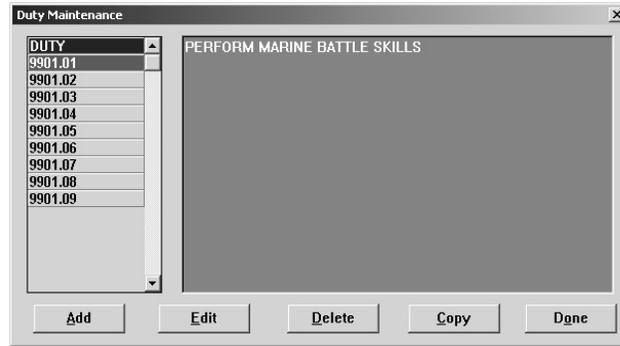
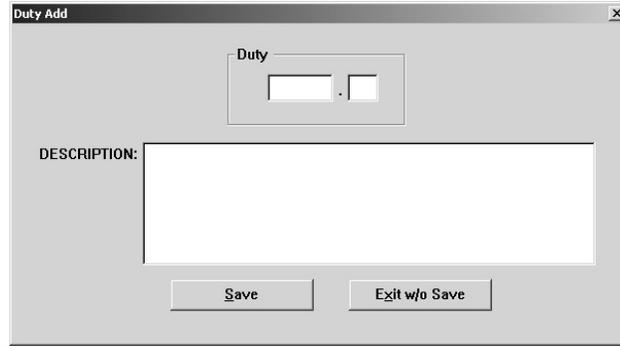
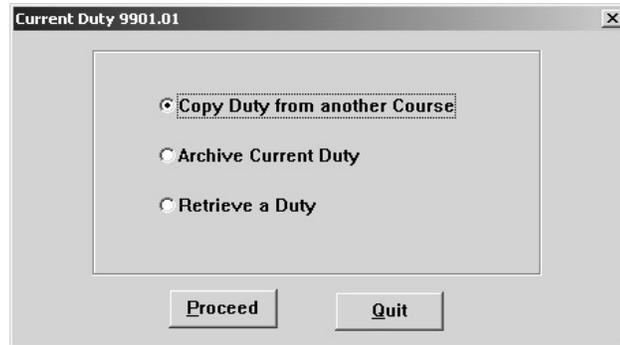
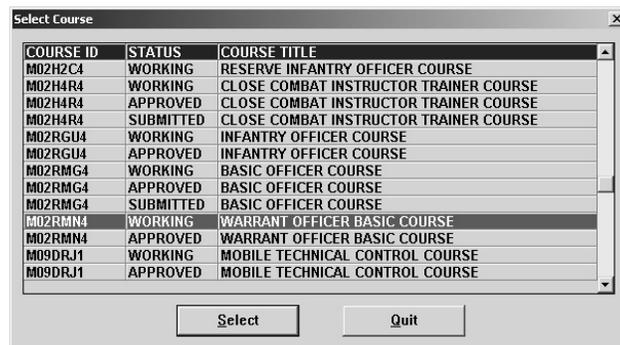

Figure 6-23. Duty Maintenance
Figure 6-24. Duty Add
Figure 6-25. Current Duty
Figure 6-26. Select Course
1. From the Maintenance drop-down menu, choose Duty. The Duty Maintenance selection list box (Figure 6-23) opens.
1. From the Duty Maintenance selection list box (Figure 6-23), click on **Add**. The Duty Add dialog box (Figure 6-24) opens.
1. From the Duty Maintenance selection list box (Figure 6-23), highlight the duty you wish to edit by clicking on it.
2. Click on **E**dit. A dialog box similar to the one in Figure 6-24 opens.
1. From the Duty Maintenance selection list box (Figure 6-23), highlight the duty you wish to delete by clicking on it.
- From the Duty Maintenance selection list box (Figure 6-23), click on **C**opy. The Current Duty dialog box (Figure 6-25) opens.
- From the Current Duty dialog box (Figure 6-25), choose Copy A Duty From Another Course and click on **P**roceed. The Select Course selection list box (Figure 6-26) opens, displaying only those courses to which you have access.
1. From the Current Duty dialog box (Figure 6-25), choose **Archive Current Duty** and click on **Proceed**.
1. From the Current Duty dialog box (Figure 6-25), choose Retrieve A Duty and click on **Proceed**. The Retrieve Duty dialog box opens for you to select a duty.